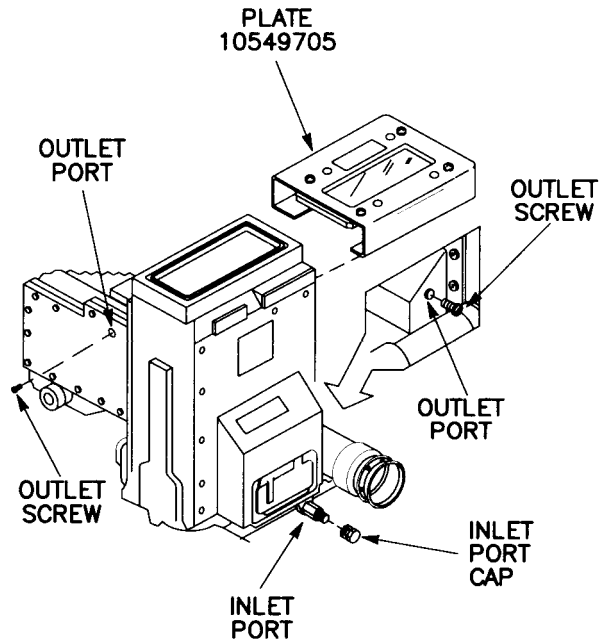

Figure 3-32 M44A Body Assembly
(3) Purging and Charging the Body Assembly (fig. 3-32).